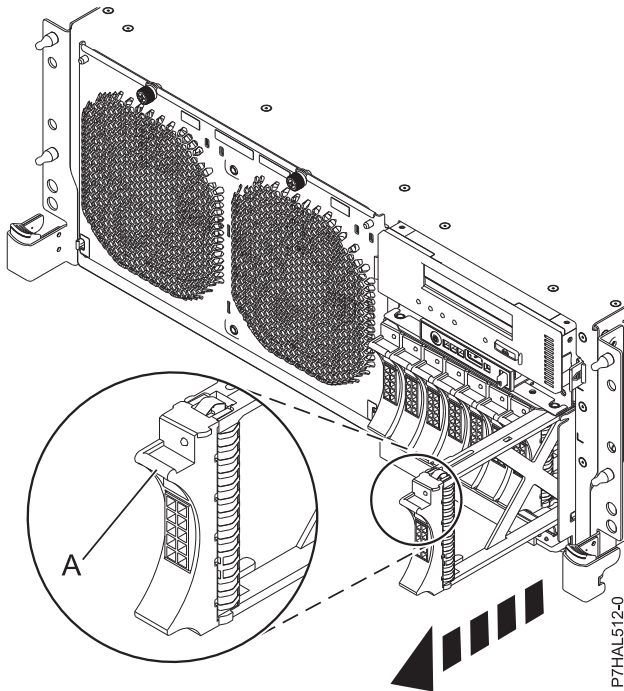

Figure 40. Removing a disk drive filler from the 8202-E4B, 8202-E4C, 8205-E6B, or 8205-E6C
2. Hold the filler handle **(A)** and pull out the disk drive filler from the slot, as shown in Figure 40 on page 96.